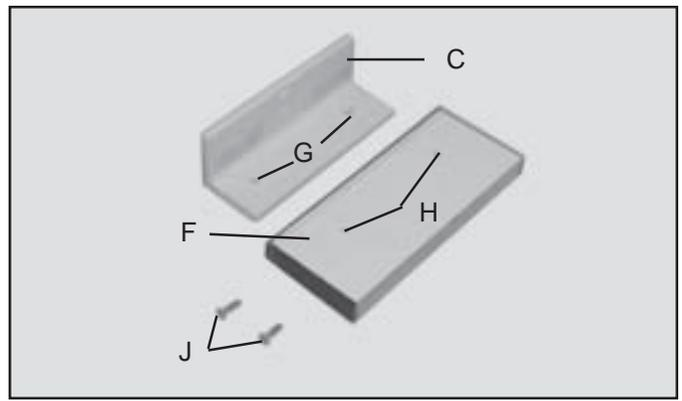

Fig. 6
9. Align two holes (G) Fig. 6, with drilled holes (H) and fasten cut-off fence support (C) to cut-off fence board (F) using two #10 x 3/4" flat head screws (J).